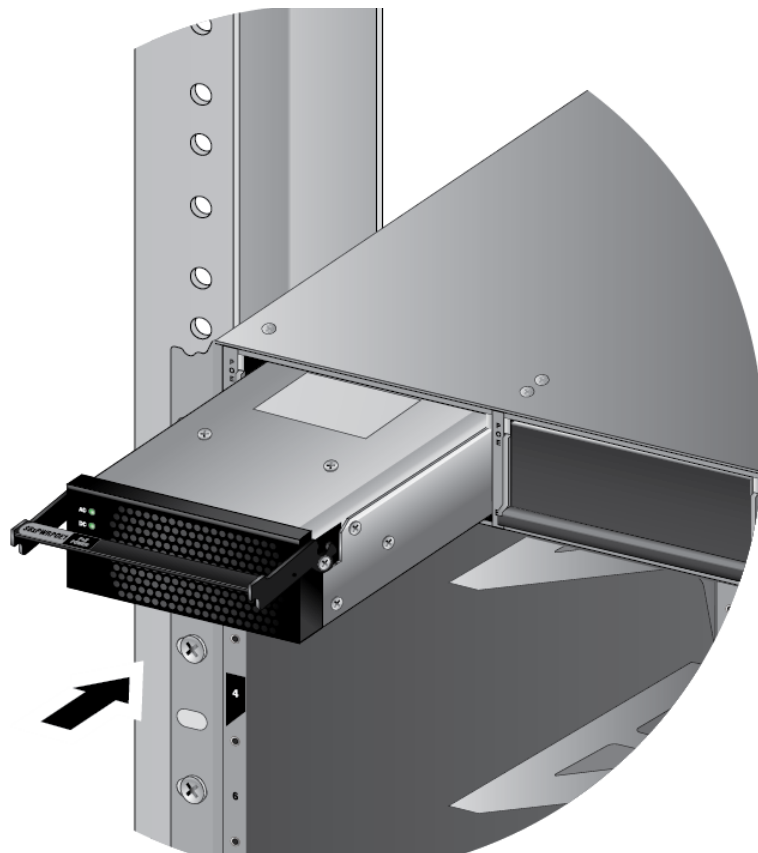

Figure 61. Inserting the AT-SBxPWRPOE1 Power Supply
5. Align and insert the AT-SBxPWRPOE1 Power Supply into slot A or B. Figure 61 shows the power supply being installed in slot A.